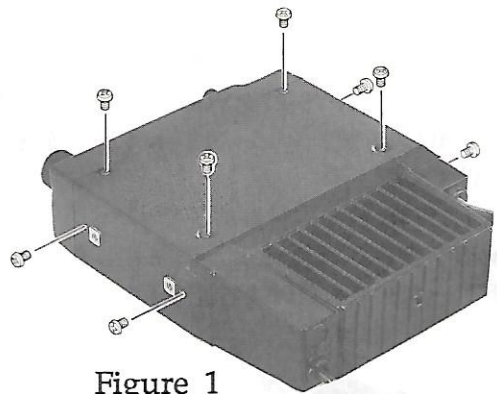

Figure 1
- ❑ Disconnect the power cable, and turn the set upside-down. Referring to Figure 1, loosen the four side screws, remove the four screws affixing the bottom cover, and remove the cover.